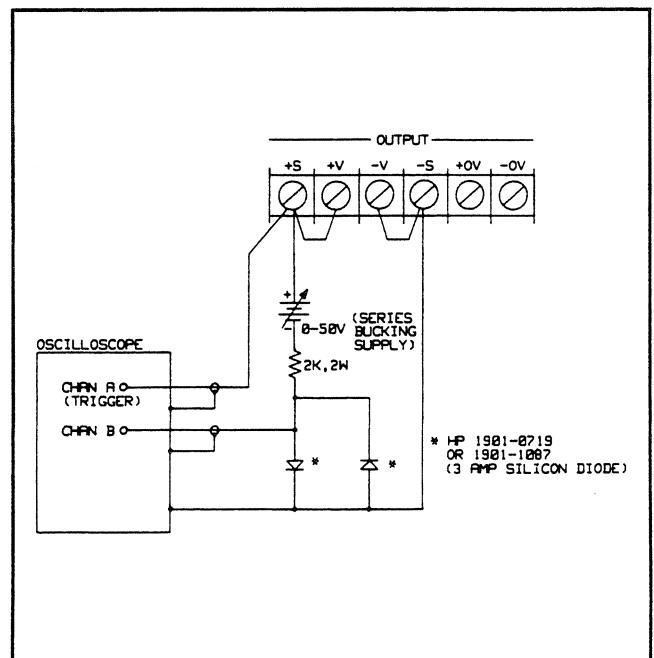

Figure 3-6. CV Up Programming Speed Test Setup
- Turn off the supply and connect the output to be tested as shown in Figure 3-6.
j. Now observe Channel B on the oscilloscope while maintaining the trigger on Channel A as in step h. Note the series supply bucks out the Full Scale Output Voltage and that the waveform is clamped at approximately -0.6 V and rises to the top horizontal line when the output voltage is at full scale. The diodes (see Figure 3-6) prevent gross overload of Channel B (which is set at 50 mV division) allowing examination of the "tail" of the exponential waveform. The output voltage should be within 20 mV of its final settling value on the top horizontal line is less than 2 msec. for 40WLV/80WLV outputs and within 50 mV in less than 6 msec. for 40WHV/80WHV outputs.